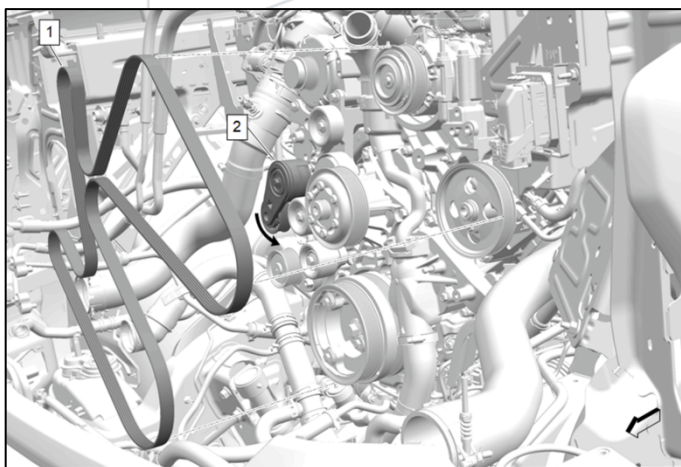

Figure 31: Main Serpentine Belt Routing
- f. **Reinstall main serpentine belt and fan drive belt (Figures 31 and 32).**